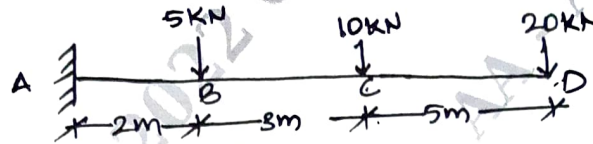

Fig.Q4(b)
- b. Calculate shear force and bending moment and draw SFD and BMD for Fig.Q4(b).